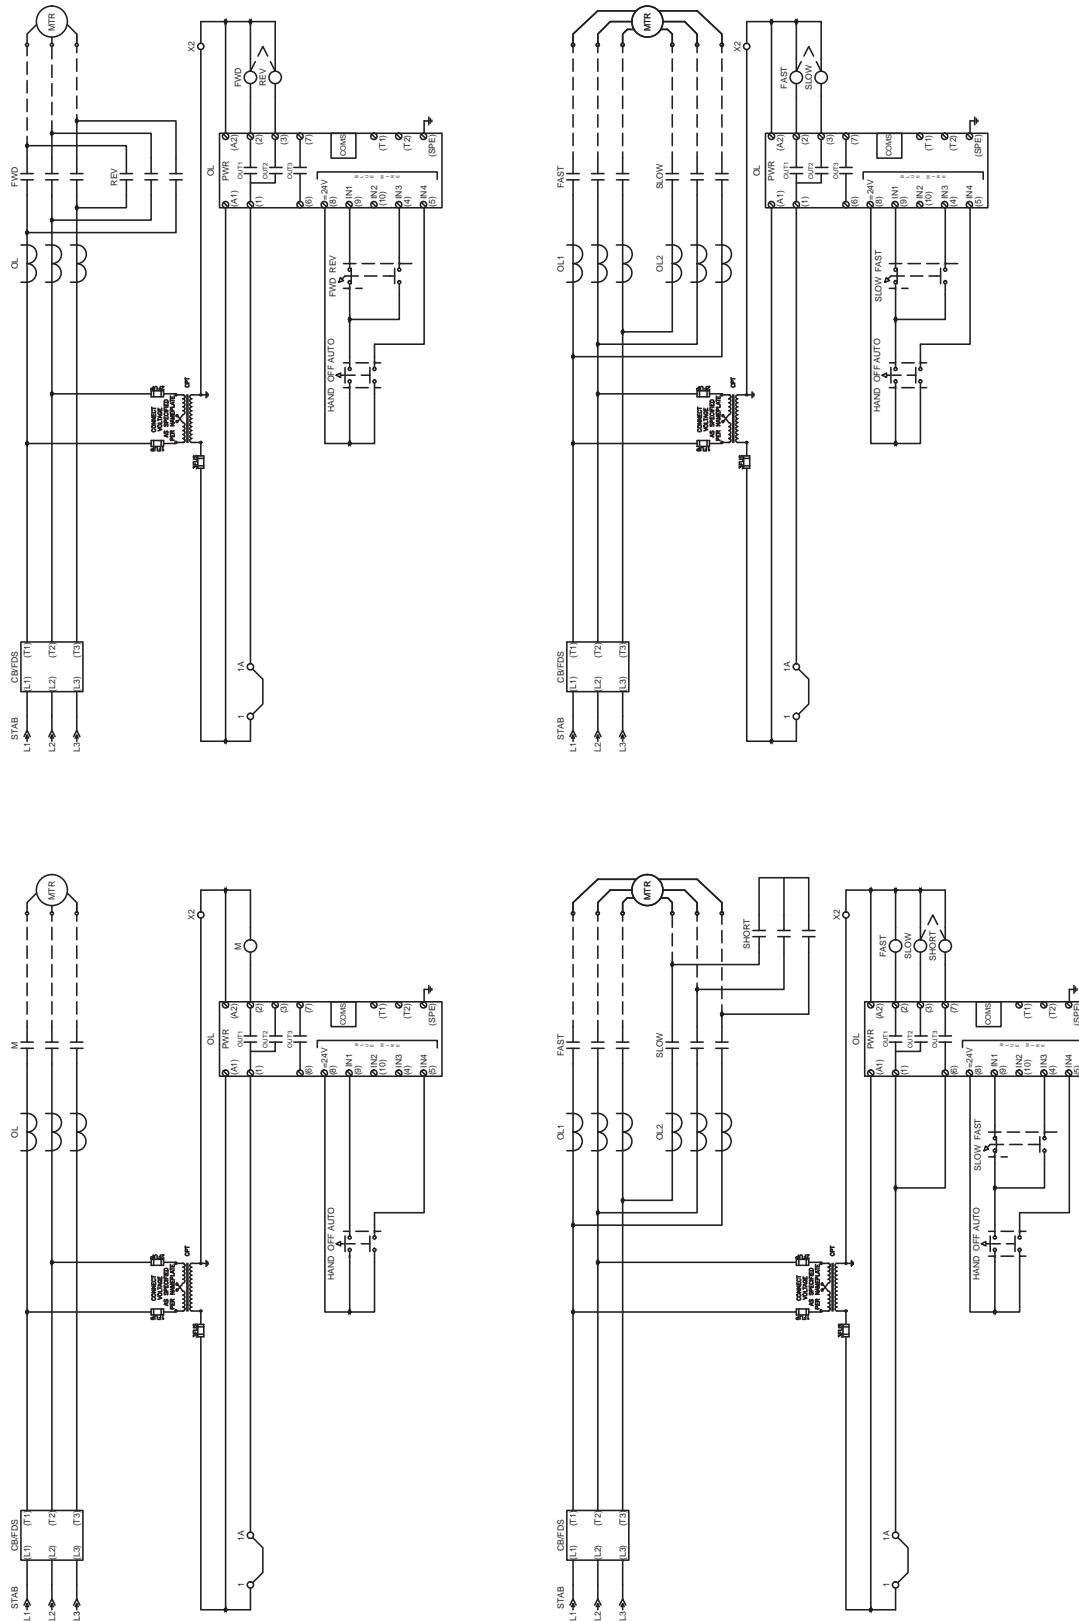

Figure 7
i. MAINTAINED SS/MAINTAINED BITS (see Figure 7):
ii MAINTAINED SS/MOMENTARY BITS (see Figure 7):